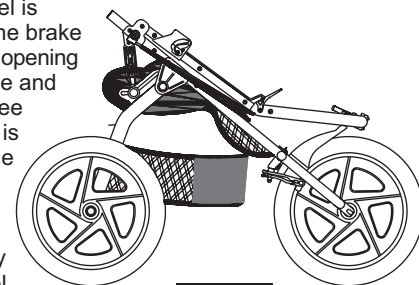
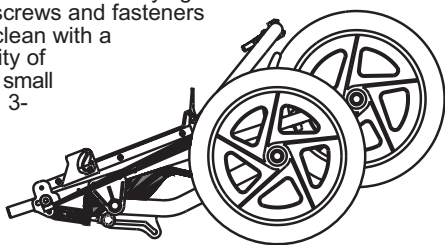
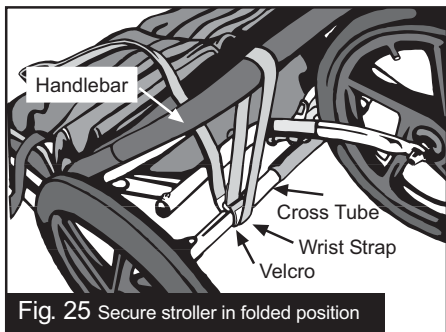

Fig. 22 Stroller with handle folded
Fig. 24
Fig. 25 Secure stroller in folded position
**12 FOLDING:** Remove children from stroller. Remove the contents of the Low Boy cargo pouch. The shock absorbers must be in position 1 (Fig. 2) before folding. Press both the right and left handlebar release levers (Fig. 3), and fold the handlebar forward as shown in Fig. 22. Locate the frame release handle underneath the seat (Fig. 23) and pull upwards sharply. This will allow the lower frame to fold together, as shown in Fig. 24. The folded stroller can be made even more compact by removing the front and rear wheels. The front wheel is removed by opening the brake quick release (Fig. 10), opening the wheel quick release and removing the wheel (see section 6). Note that it is often easier to open the brake quick release before you fold the handlebar. The rear wheels are removed by opening the rear wheel quick release (Fig. 4), and removing the wheels. The Wrist Strap can be used to keep the stroller in the folded position for transport and storage. With the stroller folded, loop the end of the wrist strap around the handlebar and back to the rear axle and fix the Velcro surfaces together (Fig. 25).